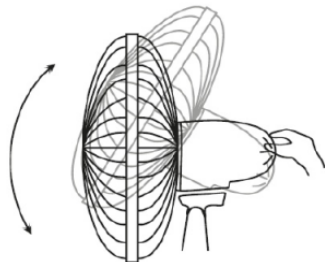

Fig 3
5. The fan head can be tilted up or down in a vertical access, make sure the fan is disconnected from mains. (Fig 3)